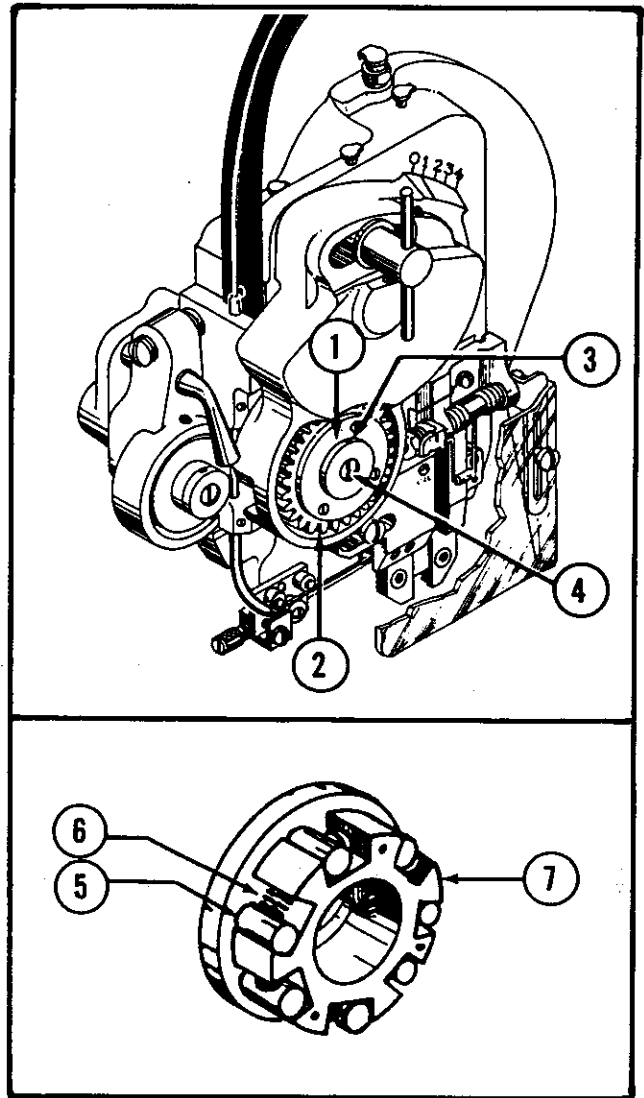

Figure 20—Removing and Assembling Wire Feed Clutch
h. **WIRE FEED CLUTCH** (See Fig. 20)—The wire feed clutch (1) is a friction roller type of clutch that operates (grips) on the wire feed stroke (counter-clockwise rotation of clutch ring gear (2)), and slips on the return stroke. If the clutch slips on the wire feed stroke, causing uneven wire feed, it is probably due to excessive clutch lubrication. (Clutch is lubricated at oil hole in retaining washer (3).) In this event, the clutch assembly should be removed and washed with gasoline. (Be sure to relubricate clutch after clutch is reassembled in head.)
If clutch is disassembled, make sure that clutch rollers and springs, (5) and (6), are reassembled in the clutch spider (7) as shown in Fig. 20.